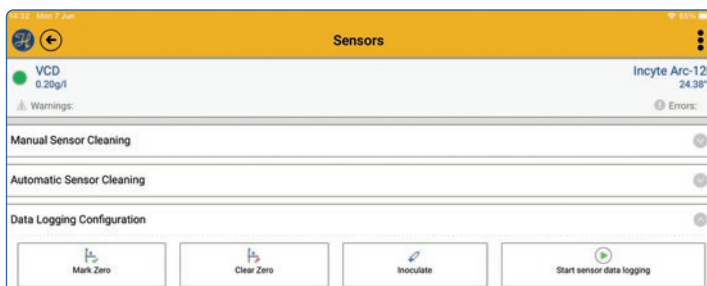
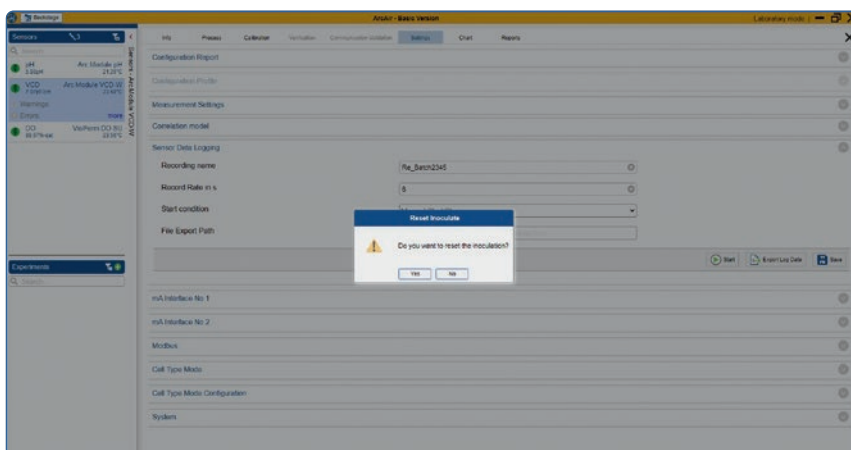

Figure 29: Sensor Data Logging on mobil ArcAir Version.
Figure 30: Example Screen of Sensor Data Logging using a Manual Start Option.
- a. Manual Start/Stop > used in ArcAir with the Computer Software, or via mobile version (see Figure 29). A pop up window will appear asking about reset inoculation. Please select yes, if no inoculation has been done for this run (Figure 30). Be aware that the inoculation button in the Experiment is enabled when «no» is selected.
- b. Start recording with Inoculation, will start the recording once the culture is inoculated (inoculation button is pressed in ArcAir Computer Software, or via mobile version > Experiment chapter 6.4.11 «Inoculate» or Figure 29).